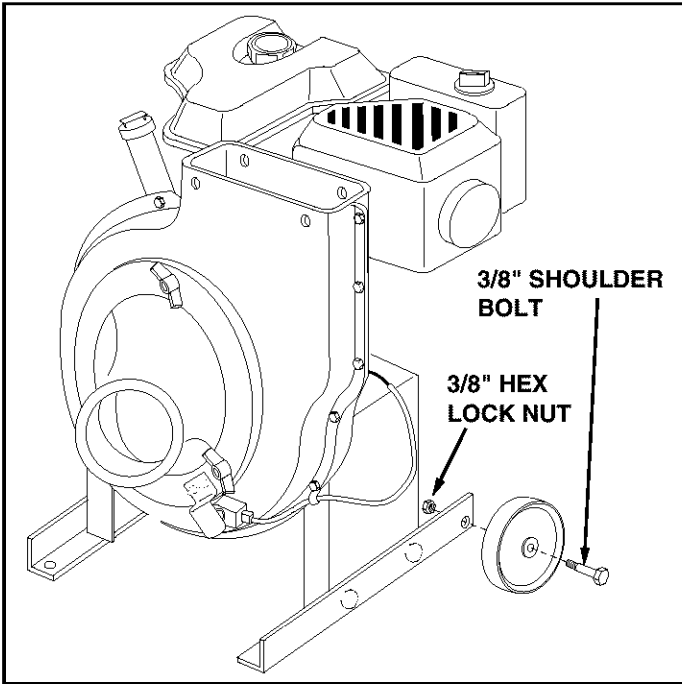

FIGURE 14
- Assemble a plastic wheel to each engine mount bracket using a 3/8" shoulder bolt and 3/8" hex lock nut. See Figure 14.